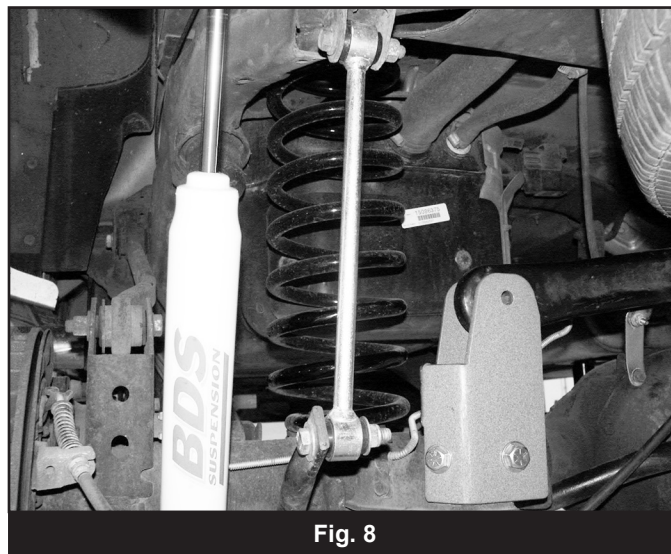

Fig. 8
27. Install the provided bushings (SB58) and sleeves (54314) in the new extended sway bar links. Install the links with the OE upper hardware and the provided 12mm x 70mm bolts, nuts and 7/16" USS flat washers from bolt pack #551 at the sway bar (Fig 8). Torque hardware to 60 ft-lbs.